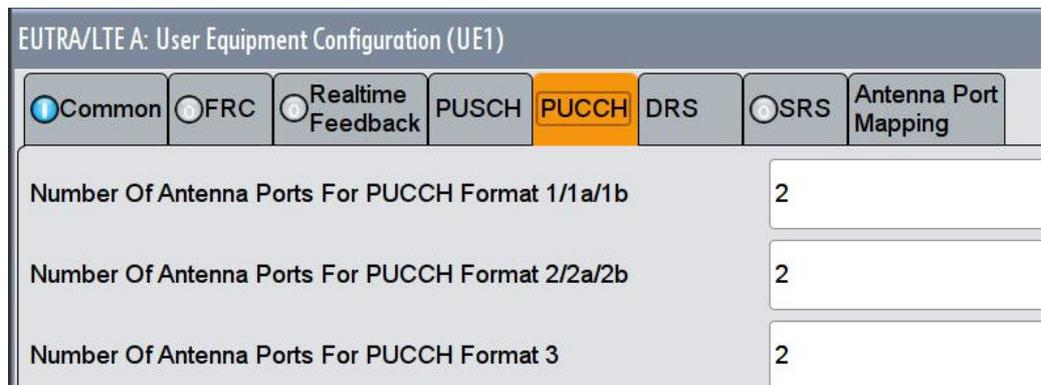

Fig. 3-145: Number of antenna ports for the different PUCCH formats is 2
4. Enter in tab PUCCH the **number of antenna ports**, here 2 (Fig. 3-145).